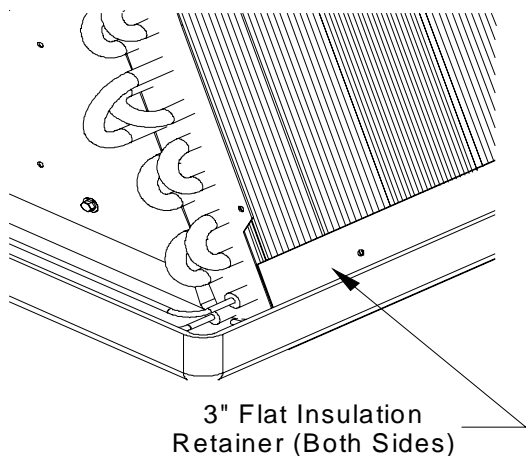

Figure 5
10. To prevent possible condensate “blow off” the insulation retainers are to be laid into the evaporator coil pan as shown in **Figure 5**.